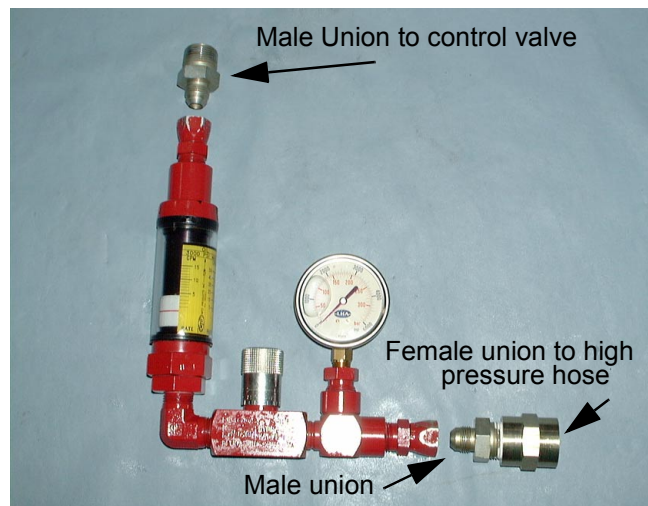

Figure 1
**NOTE:** The pressure gauge side of the test kit connects to the pump's high pressure hydraulic hose, and the flow gauge side of the test kit connects to the inlet port of the control valve. See Figure 1.